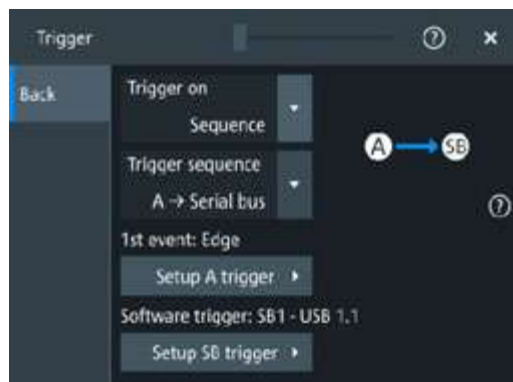

Figure 14-62: Serial bus Trigger setup dialog for USB 1.1
- In the "Trigger" tab (Figure 14-62):